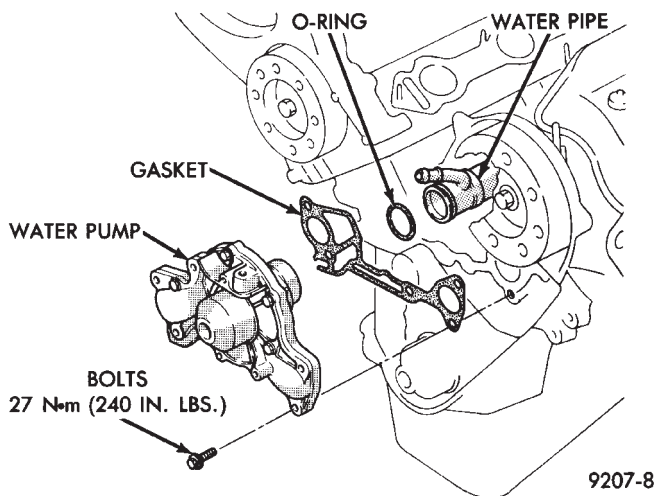

Fig. 3 Water Pump 3.0L Engine
The 3.0L pump bolts directly to the engine block, using a gasket for pump to block sealing (Fig. 3). The pump is serviced as a unit.
(1) Drain cooling system. Refer to Draining Cooling System in this group.
(2) Remove mounting bolts.
(3) Separate pump from water inlet pipe (Figs. 3 and 4) and remove.